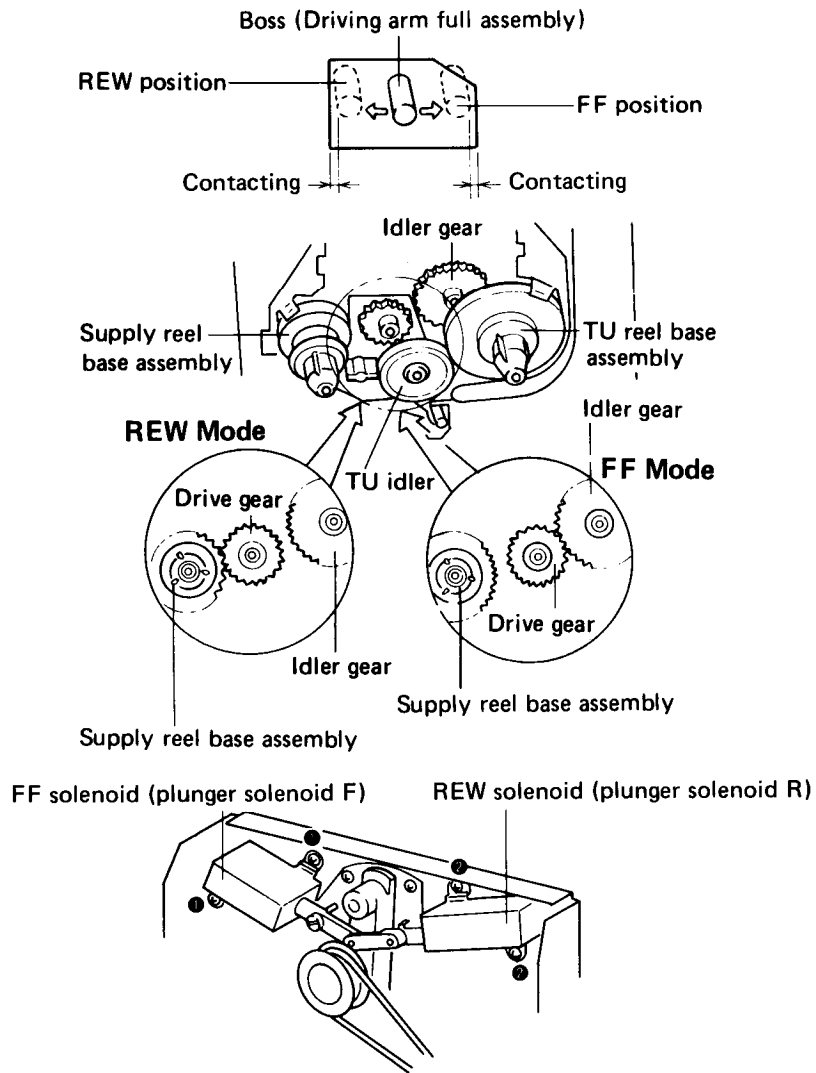

Fig. 12-3 FF and REW solenoid adjustment
2. Loosen screw ① and adjust the mounting position of the FF solenoid (plunger solenoid F) so that the square hole in the full reel base assembly is flush against the boss of the drive arm full assembly. (See Fig. 12-3)
2. Loosen screw ② and adjust the mounting position of the REW solenoid (plunger solenoid R) so that the square hole in the full reel base assembly is flush against the boss of the drive arm full assembly. (See Fig. 12-3).